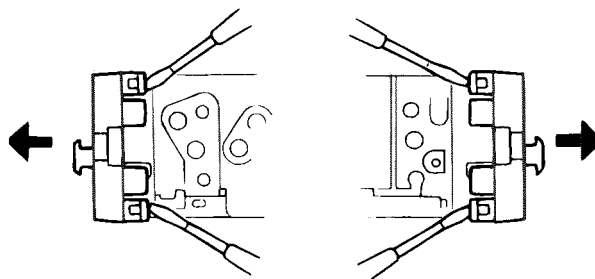

Fig.2
■ Removing the front chassis (See Fig.2)